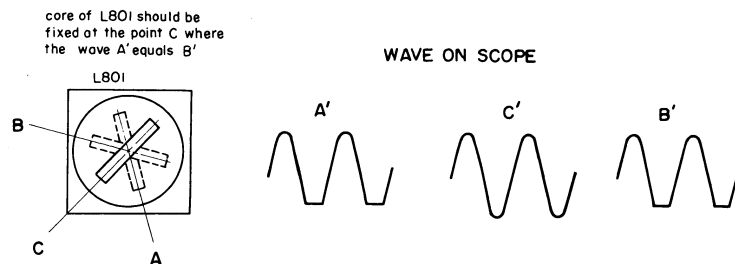

Figure 5.
2. After the input level on the antenna comes up to $400\mu\text{V}$, the Muting coil L801 should be set in the following manners (see Fig.5).